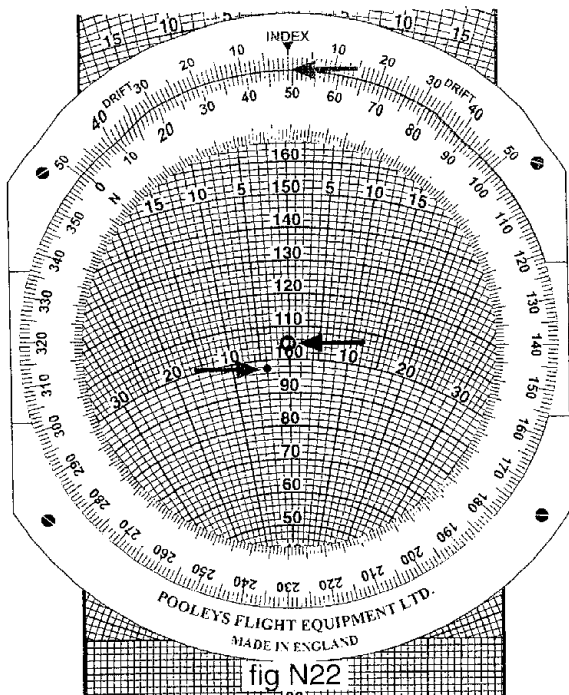

fig N22
**Note:** The soft pencil mark has now moved 4° to the left (fig N22). Rotate the inner scale left 4° and note that the soft pencil still indicates 4° left.